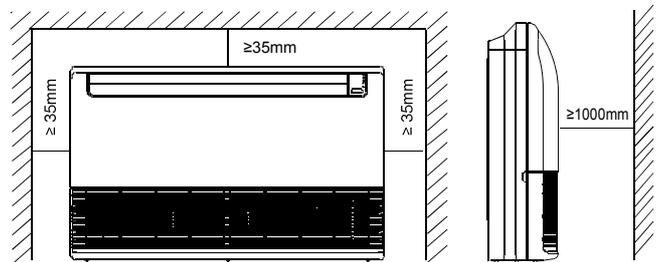
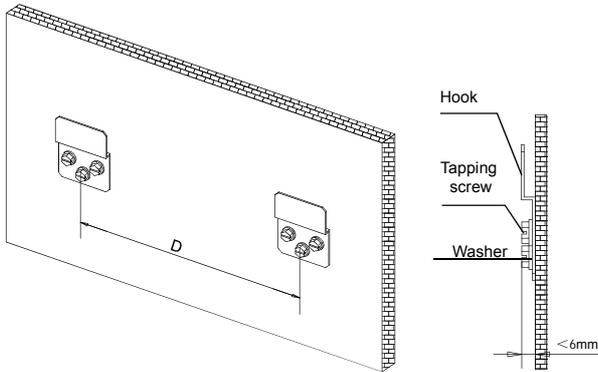
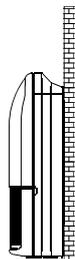

Fig.5-1
Fig.5-3
Fig.5-4
(Refer to Fig.5-1, Fig.5-2, Fig.5-3 and Table 5-1 for specification.)
1 Fix the hook with tapping screw onto the wall. (Refer to Fig.5-3)
- Please Refer to Fig.5-3 and Fig.5-4 for the hanging screw bolts distance